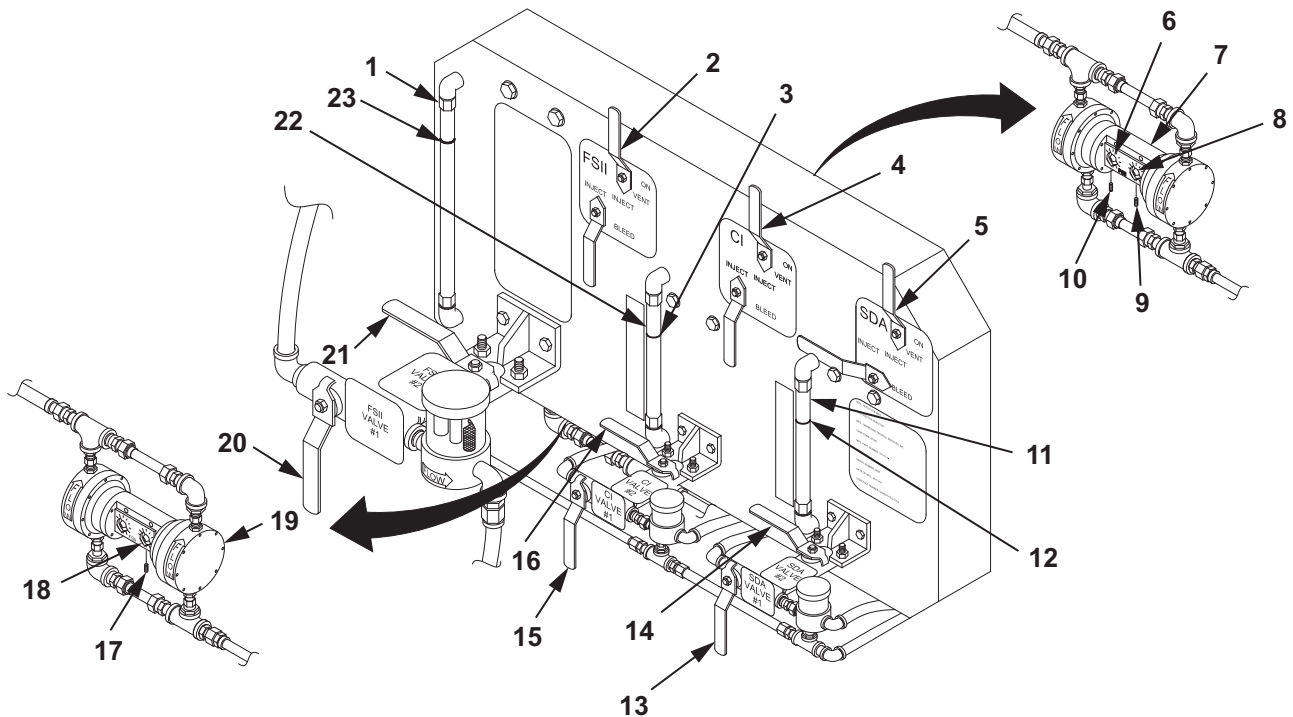

Figure 27. Calibrating the FSII Fuel Additive Injector.
- o. Increase or decrease delivered additive to fuel ratio by loosening the set screw (Figure 27, Item 9) and adjusting the stroke adjustment knob (Figure 27, Item 8) on the CI, SDA additive injector (Figure 27, Item 7). Repeat calibration steps until desired additive to fuel ratio is reached.
- p. Lock the adjustments securely with the set screw (Figure 27, Item 9) located below the stroke adjustment knob (Figure 27, Item 8).